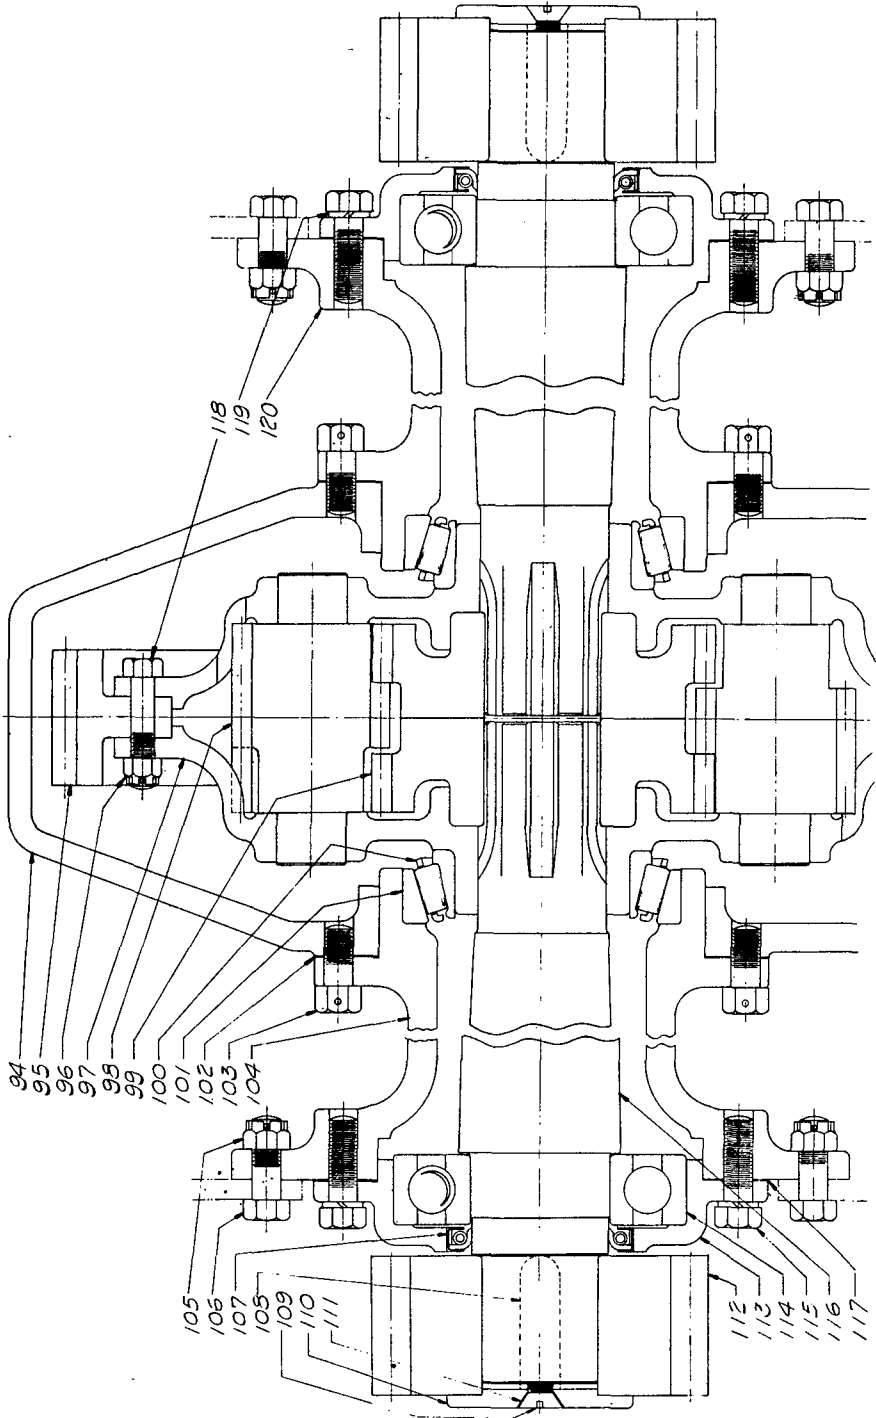

Fig. 16 -Differential & Second Countershaft
**A. REMOVAL OF DRIVE SHAFTS AND PINIONS (Figure 16)**